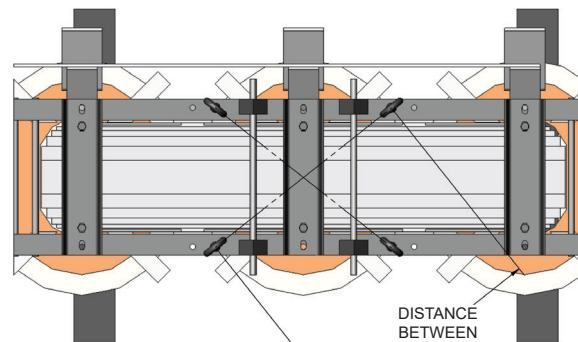

FIGURE 4
4. Measure the distance between the eye bolts or lifting angles (see figure 4 & 5).